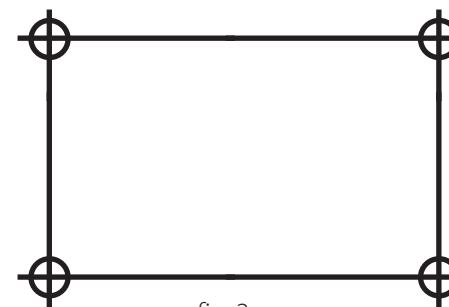

fig. 3
6. Draw a vertical line up from your bottom fixing points and measure for the top fixings as shown in fig 3.